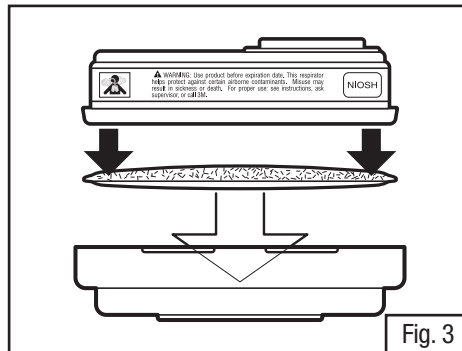

Fig. 3
2. Press cartridge into filter retainer. It should snap securely into filter retainer. When correctly installed, filter should completely cover face of cartridge (Fig. 3).